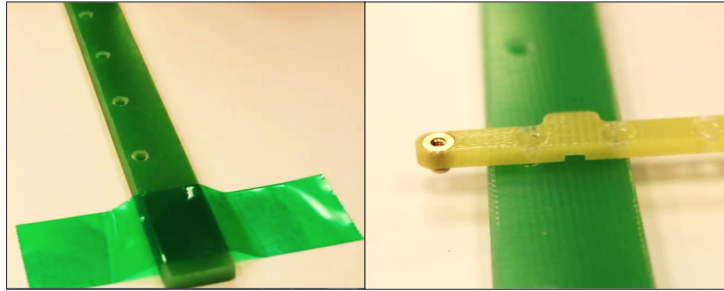

Figure 33: Preparation of the baseplate.
Step 2: Attach the FR4 baseplate onto the table. Then place the piece of internal frame on top, the chamfer side facing up. Align the hole of the frame with the hole of the baseplate (Fig. 33).